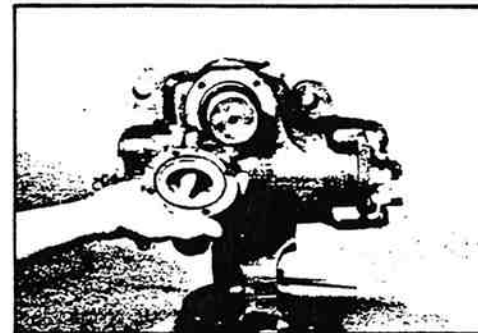

Figure 11-10. Trunnion Cover Removal.
8. Remove the trunnion cover (figure 11-10).